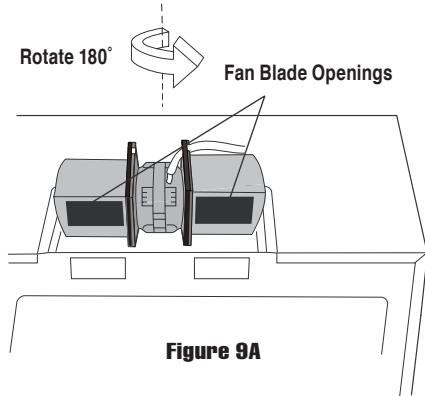

Figure 9A
3. Rotate the Hood Fan Unit 180° so that the Fan Blade Openings are facing the back of the oven. See Figure 9A on page 5.